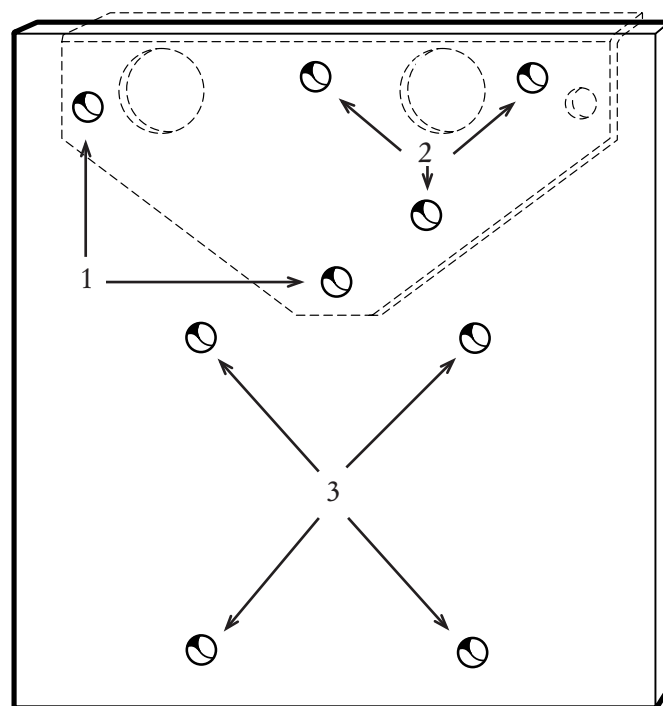

Fig 3
Assemble bracket (3) onto the frame bracket with two screws (13) two nuts (14) and four washers (15) through the holes. Marked 1, Fig 3.
Drill the three 12mm screw-holes for the air drier in the frame bracket, through the holes. Marked 2, Fig 3.
Assemble the air drier (1) onto the bracket (3) with three screws (16) and three washers (15), through the holes. Marked 2, Fig 3.
Assemble the purge tank (2) and the two distance plates (4) onto the assembling bracket (3) with fasteners (5) through the holes. Marked 3, Fig 3.